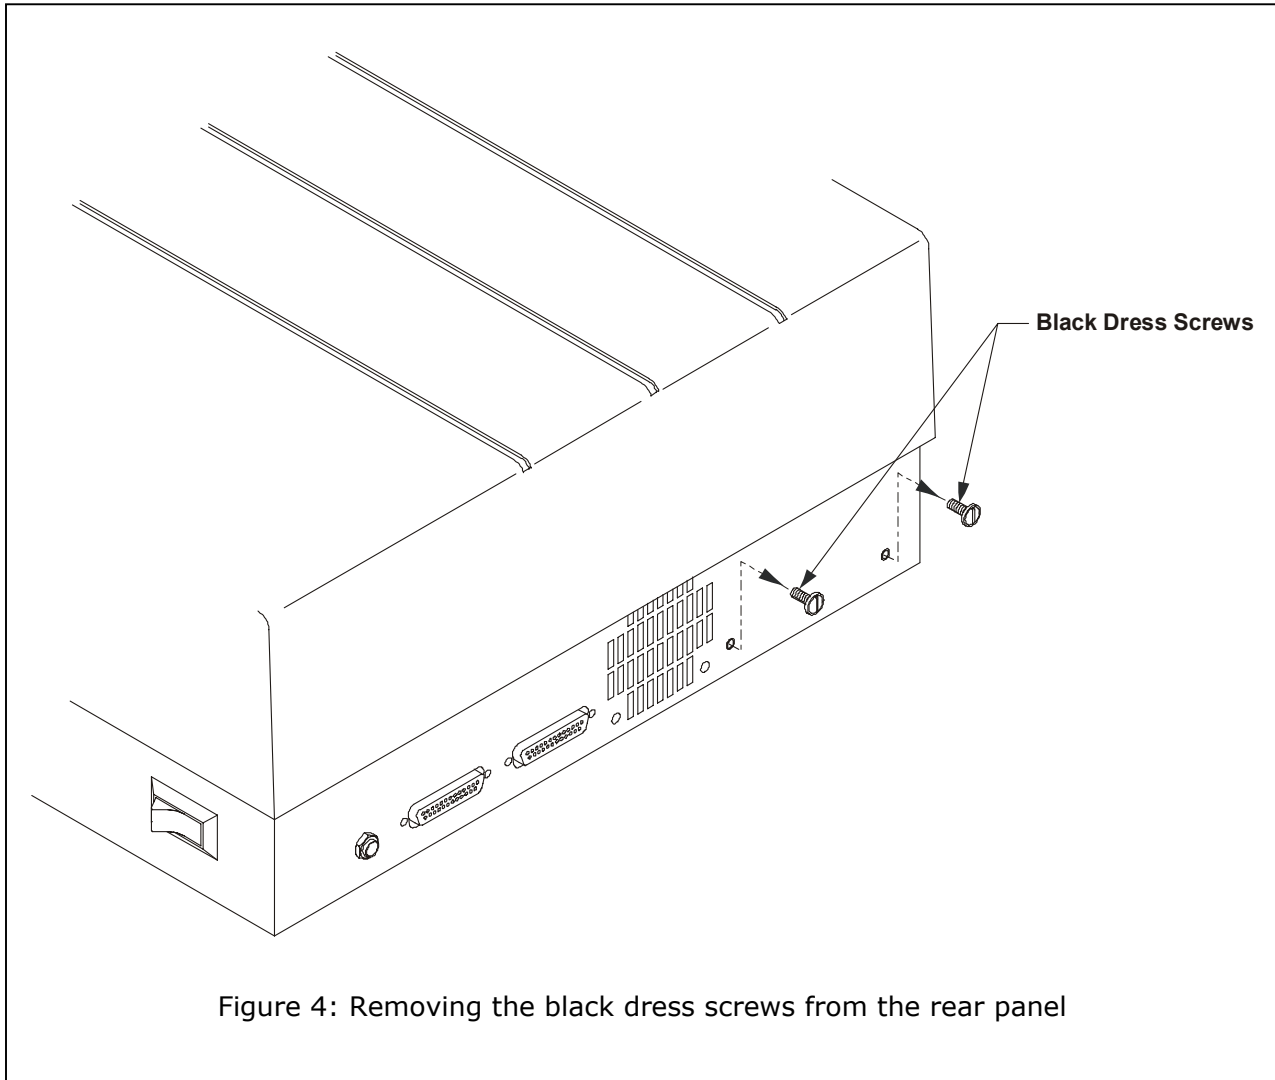

Figure 4: Removing the black dress screws from the rear panel
5. Use the slotted screwdriver to remove the two black dress screws from the rear panel of the instrument (**Figure 4**). Set aside these screws.